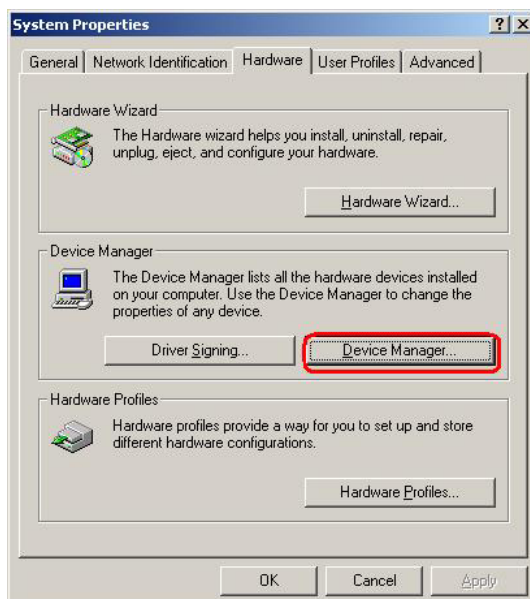

Figure 6-15: Double Click the Device Manager Tab
Step 3: Double click the **Device Manager** tab (Figure 6-15).